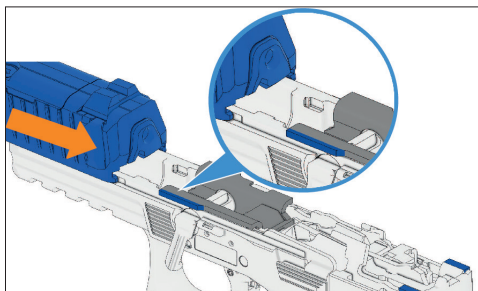

Figure 31 – Push slide over guide-rails
5. Place slide onto frame from above and push over the guide-rails of the frame (Fig. 31).